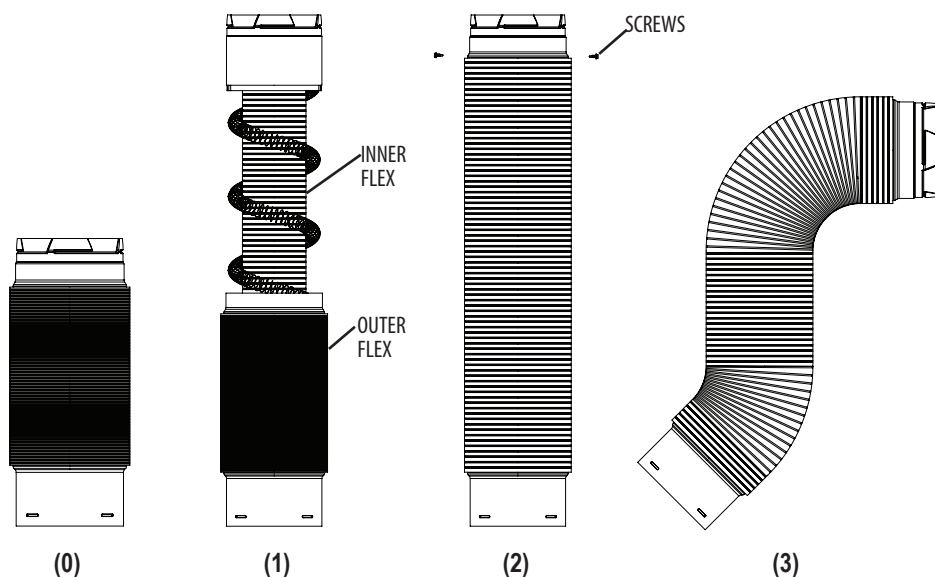
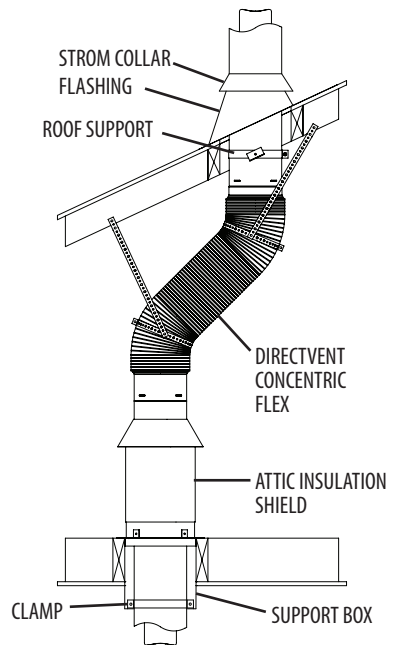

Figure 1
Figure 3
**Step 4:** Assemble the DirectVent Concentric Flex into the desired shape for the install by following the steps show in in **Figure 1** and as instructed below:
- (1) Stretch the inner flex liner to the required length.
- (2) Stretch the outer flex liner to the required length and secure the male collar to the outer flex collar with the three sheet-metal screws provided.
- (3) Bend the Concentric Flex into the general shape needed for the install.
Duravent’s DirectVent Concentric Flex was **NOT** designed to support the weight of additional vent sections. All vent sections installed above the Concentric Flex must be adequately supported by using appropriate components – Example: ceiling support, roof support, wall-straps, elbow-straps, etc. (**Fig 3**)
**Step 5:** *Install a rigid section of DirectVent pipe through the Ceiling Support Box and attach the provided clamp to the section of pipe on the inside of the Ceiling Support Box to support the rest of the install (**Fig. 3**). Stretch and bend the Concentric Flex using the same steps as illustrated in **Figure 1** to suit the install. Twist-lock the Concentric Flex onto the Appliance Adapter and to the rigid pipe hanging in the Support Box. Use wall-straps or*
*roof in Step 2. The opening should be of sufficient size to meet the minimum requirements for clearances-to-combustibles, as specified by the appliance manufacturer. Use a Roof Support to rigidly fix a section of pipe at the roof level. Stretch and bend the DirectVent Concentric Flex into the shape necessary for the install. Twist-lock the female end of the flex onto the rigid pipe sticking out of the attic floor, twist-lock the male end of the flex to the pipe at the roof level. Use wall-straps and metal plumbers tape as necessary to support the flex and maintain clearances-to-combustibles. (Fig 3).*